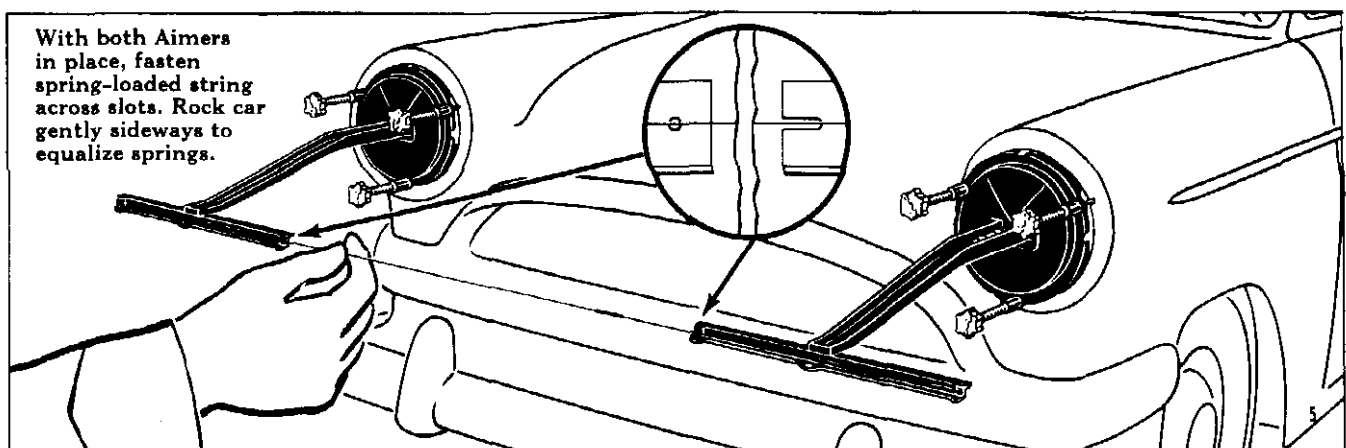

Fig. 12-61 Setting Up T-3 Safety-Aimer
4. Fasten spring loaded string from left aimer across slots to far side of right hand aimer. Rock car gently from side to side to equalize springs (Fig. 12-61).